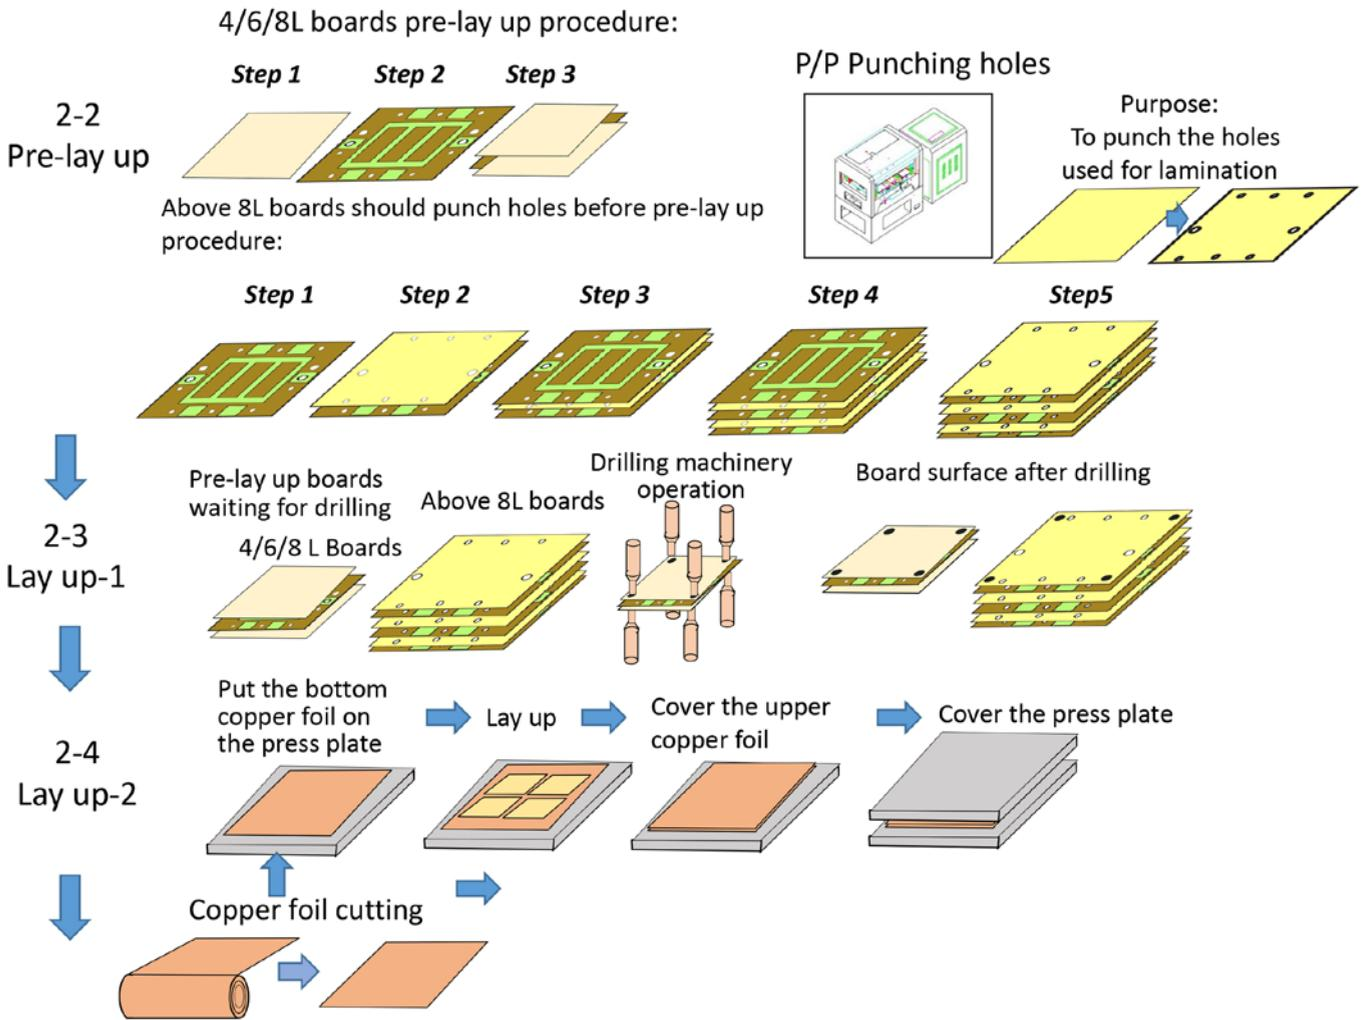

Figure 2: Benchmark detail of the manufacturing process. This example is the multilayer lay-up process.
the multilayer lay-up process. As seen in Figure 2 (4), it is important to use as complete a benchmarking analysis as you can afford in order to have the details required in the next automation planning step. Information flow is important!
The planning process can be as simple as the four steps seen in Figure 4; simple like the HP process (Figure 2), or as elaborate as the six phases seen in Table 1. Whatever methodology is used, thorough planning will make the project proceed more smoothly and ensure success.